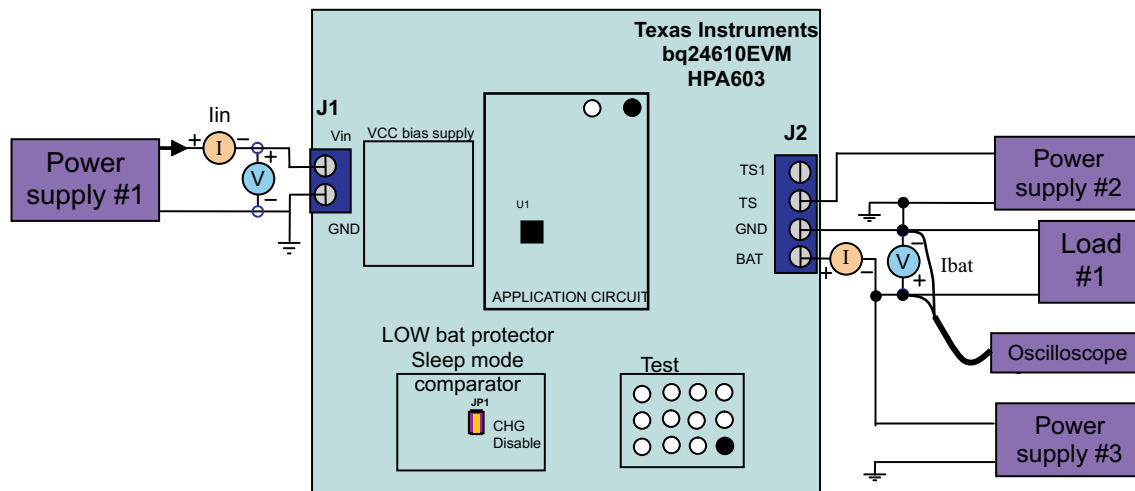

Figure 1. Original Test Setup for bq24610EVM-HV
11. After the preceding steps are done, the test setup for HPA603 looks like that shown in Figure 1.